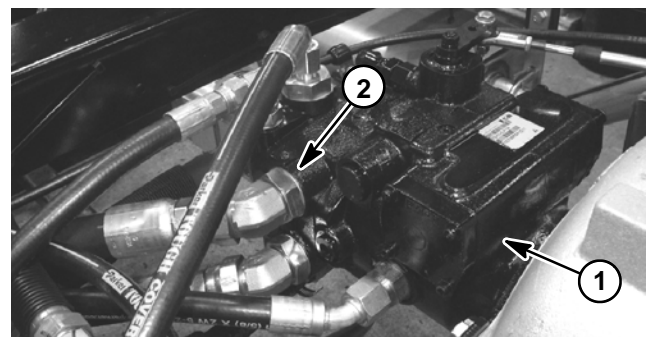

Figure 33
5. Thoroughly clean and disconnect upper hydraulic pressure hose from piston pump fitting on right side of pump (Fig. 33).